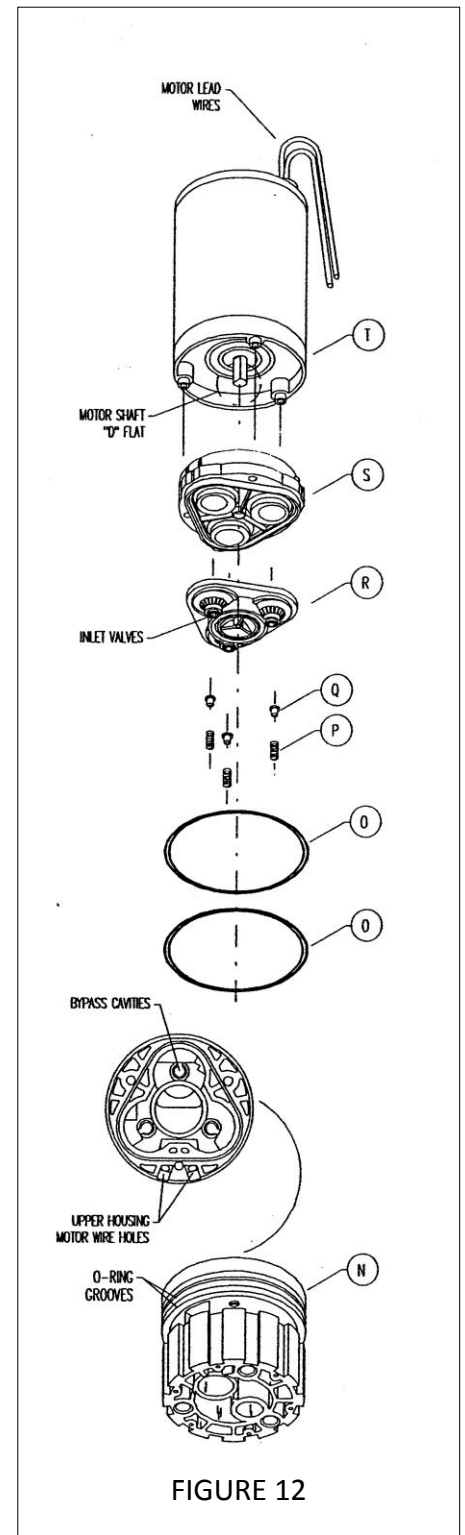

FIGURE 12
- 4.1 Place the Lower Housing Assembly onto the Valve Housing Assembly (R) (Fig. 12).